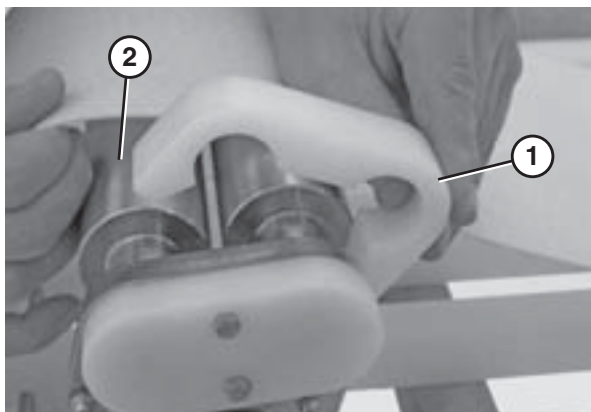

Figure 85
1. Slide the pinch guard blocks (Figure 85, item 1) off the nose bar spindles (Figure 85, item 2).